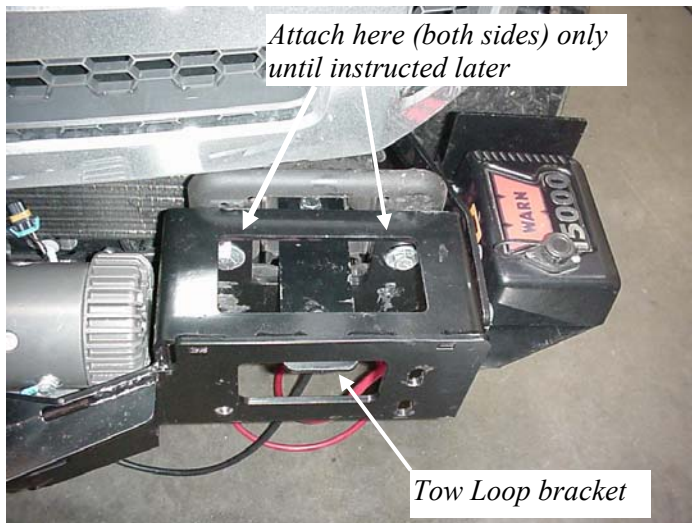

Figure 10 Carrier Assembly in place – note position of Control Pack
7. Bolt the Tow Loop Brackets inside the frame (the Brackets bend down slightly). Use 1/2 x 2" bolts through the top of each Bracket in three(3) places. Install flat washers, lock washers and nuts on each bolt and tighten.
8. Lift and bolt the Winch Carrier Assembly into place. The Carrier Assembly should slide inside the Outer Brackets. Insert 1/2 x 2" bolts and flat washers from inside through the upper four(4) slots *only* and install flat washers, lock washers and nuts on the back. **Figure 10**. Level and center the Carrier Assembly relative to the vehicle body and tighten the hardware. When